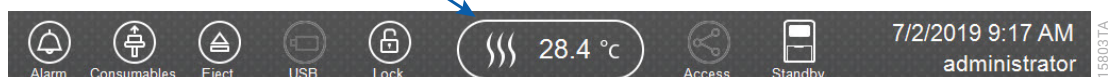

Figure 46. Preheating Oven.
2. Select the **Oven Temperature** icon in the Header on the 'Main Menu' screen, as shown in Figure 46, to start preheating the oven temperature to 60°C. The temperature displayed will change as the temperature of the oven increases. When 60°C is reached, a check mark will appear adjacent to the temperature.